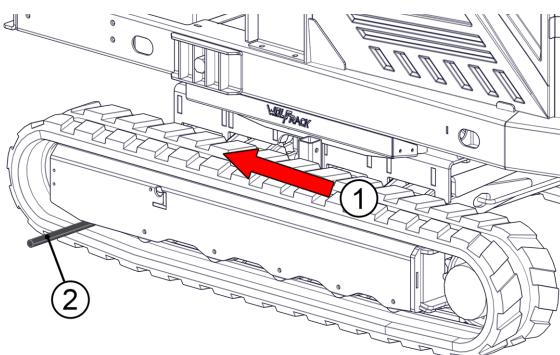

Figure 41 - Track Fitting
5. Rotate the driving gear in reverse and pull the track soles inside the frame (Figure 41, Item 1).
6. Position the track using a steel tube (Figure 41, Item 2) and rotate the driving gear in reverse again.